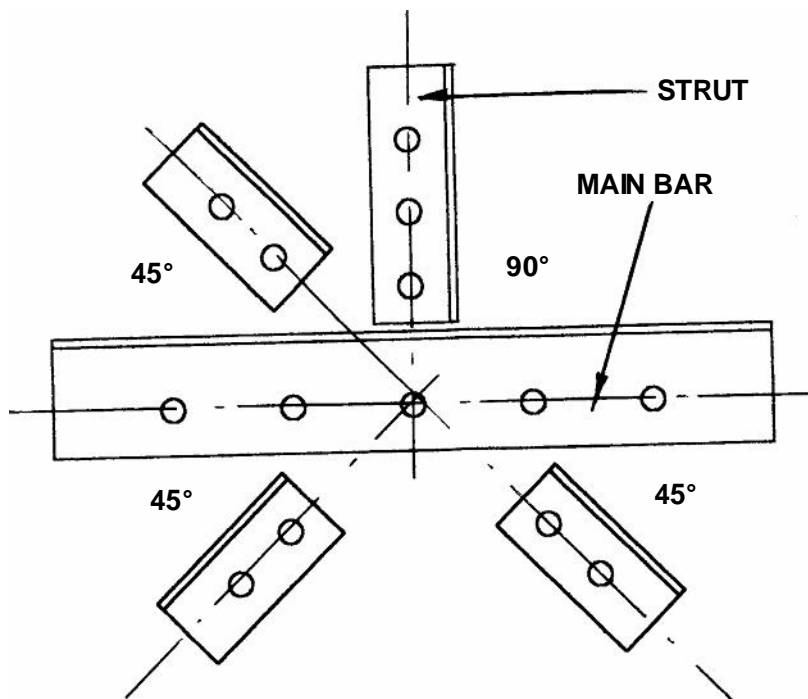

Figure 1
2.1 **Figure 1** shows the junction of the beams of a roof truss. Draw, to a scale of 1:5, a detailed drawing of this junction to show the gusset plate which must be used.